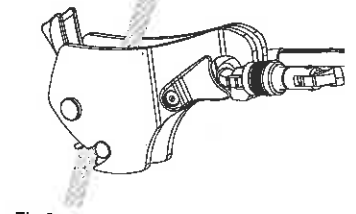

Fig 3.
4. Both side plates are connected together. See fig 3.
Close the front plate and ensure the catch closes (fig 3).